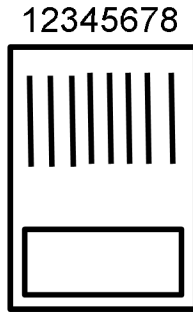

Figure 2-3 *Top View (pins visible) numbering of the RJ45 plug pins.*
*This table assumes the numbering shown in Figure 2-3, where the gold pins are held upwards and away from the reader.*